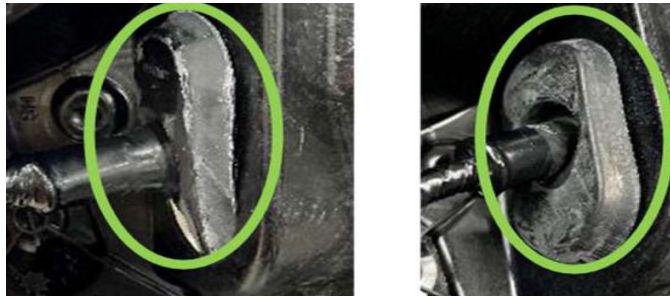

Fig. 28
31. Pull and fully seat the oval grommet into the oval grommet hole Fig. 28.